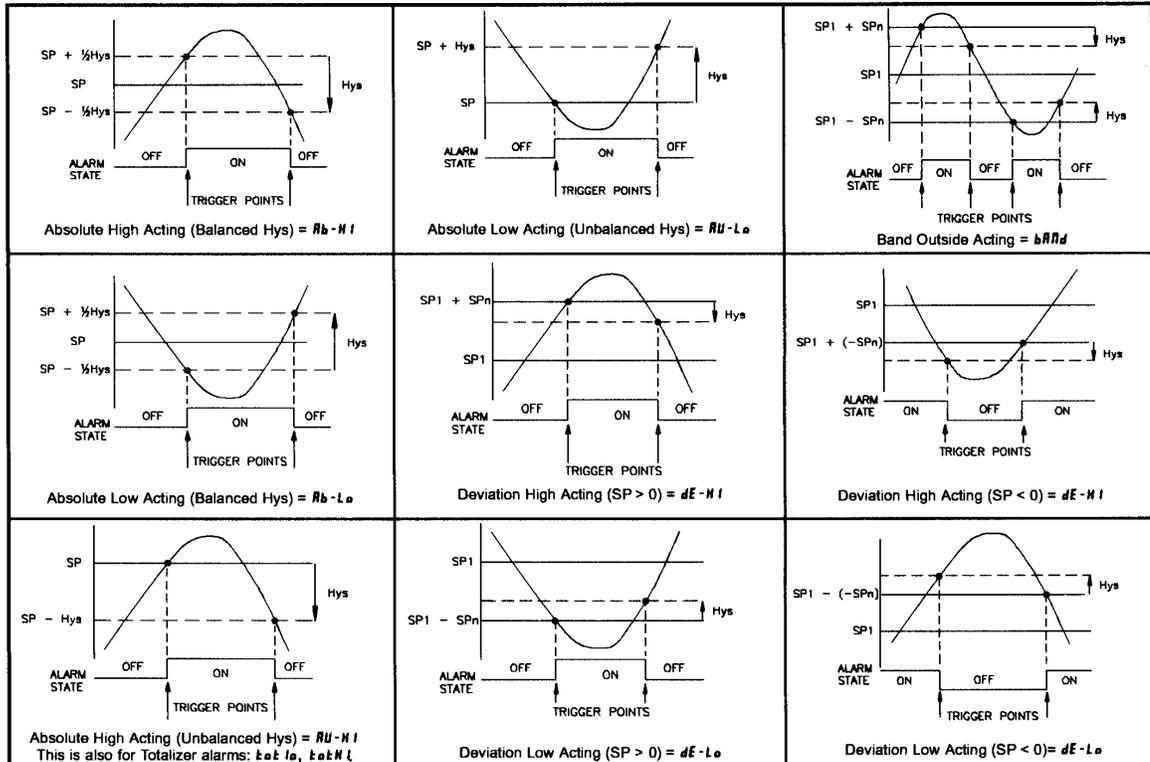

Figure B.1. Description of setpoint alarm types for the Model 250.
- d. The screen will now read "ACT-n". Using the arrow keys, select the type of alarm you desire. Use figure B.1 below to determine the correct alarm for your application.
- f. The screen should now read "HYS-n". Using the arrow keys, enter your desired hysteresis value. See Figure B.1 for a visual explanation of how setpoint alarm actions (balance and unbalance) are affected by the hysteresis. When the setpoint is a control output, usually balance hysteresis is used. For alarm applications, usually unbalanced hysteresis is used. For unbalanced hysteresis modes, the hysteresis functions on the low side for high acting setpoints and on the high side for low acting setpoints. Press PAR when set.
- i. The screen should now read "out-n". Using the arrow keys, select "nor" for normal alarm logic or "rev" for reverse alarm logic. In "rev" mode, all diagrams shown in Figure B.1 are reversed. Press PAR when complete.
"Auto" allows the alarm output to automatically reset off at the trigger points per the Setpoint Action shown in Figure B.1. The alarm remains reset off until the trigger point is crossed again.
"LatC1" latches the alarm output on at the trigger point per the Setpoint Action shown in Figure B.1. Latch means that the alarm output can only be turned off by powering the unit down or using a user-programmed function key on the front panel. When the function key is activated (momentary or maintained), the corresponding "on" alarm output is reset immediately and remains off until the trigger point is crossed again. Previously latched alarms will be off if power up Display is lower than setpoint value.
"LatC2" latches the alarm output on at the trigger point per the Setpoint Action shown in Figure B.1. Latch means that the alarm output can only be turned off by powering the unit down or using a user-programmed function key on the front panel. When the function key is activated (momentary or maintained), the meter delays the event until the corresponding "on" alarm output crosses the trigger off point. Previously latched alarms are off if power up Display value is less than setpoint value. During a power-cycle, the meter erases a previous Latch 2 reset if it is not activated at power up.